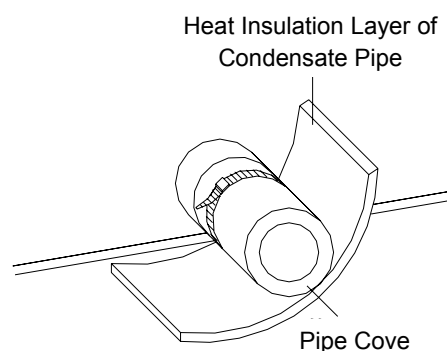

Fig. 3-5-1
- 1) The condensate pipe shall be kept an inclination 5~10° for easier drain of the condensate water. To prevent condensed dew, the connector of condensate pipe shall be heat insulated. (See Fig. 3-5-1)